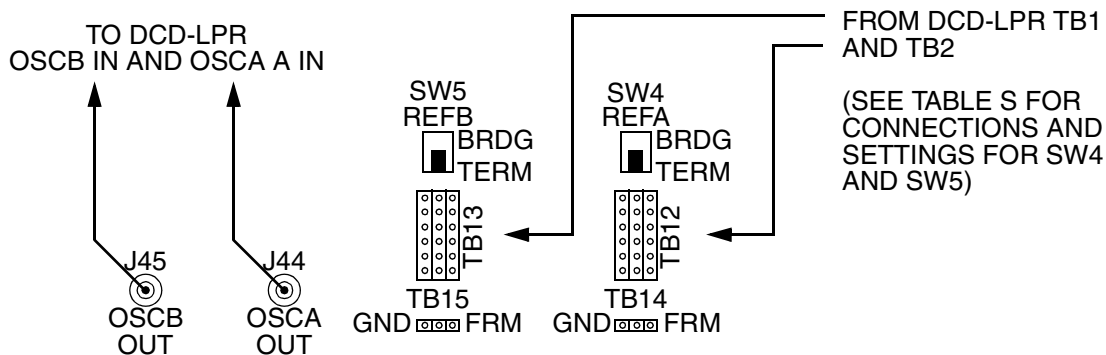

Figure 28. DCD-LPR Connections to DCD-519 Rear Shelf
3.26 Two BNC connectors, J44 (OSC A OUT) and J45 (OSC B OUT) (Figure 28), are for connecting to the DCD-LPR Shelf. They provide the necessary 5 MHz stratum signal source for the DCD-LPR Shelf. To connect the 5 MHz stratum source to the DCD-LPR Shelf, the proper filter module and cable must be used. Symmetricom's Isolation Module Kit for the DCD-LPR Shelf (p/n 093-45100-04) contains the appropriate filter module and cables for connecting the signal between the DCD-519 Shelf and the DCD-LPR Shelf.